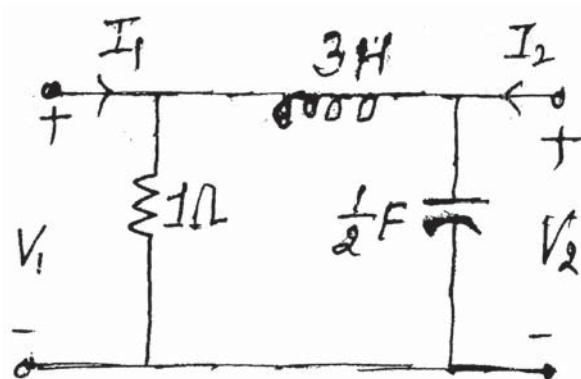

Fig. 5
- 6. a) Prove that the residue condition holds good for the network shown in Fig. 5. 5